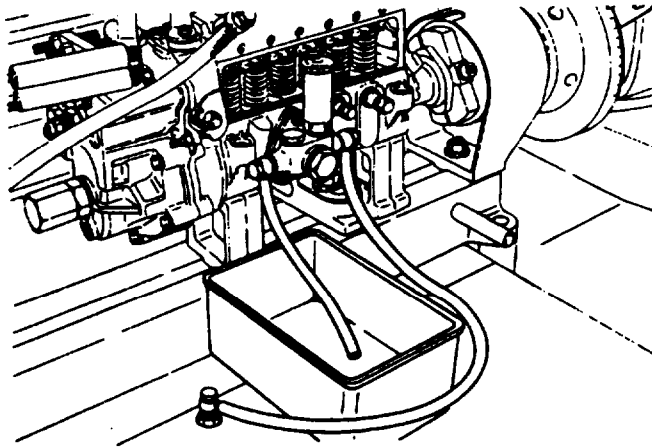

FIGURE 3-32. Feed Pump Test
- (1) Install feed pump, paragraph 3-11.4.2.
- (2) Attach a 6.5 ft (2 m) length of 0.315 in. (8 mm) ID pipe to suction port of feed pump and insert other end into fuel container. Refer to FIGURE 3-32.
- (3) Attach pipe to discharge port of feed pump and insert other end into empty container.